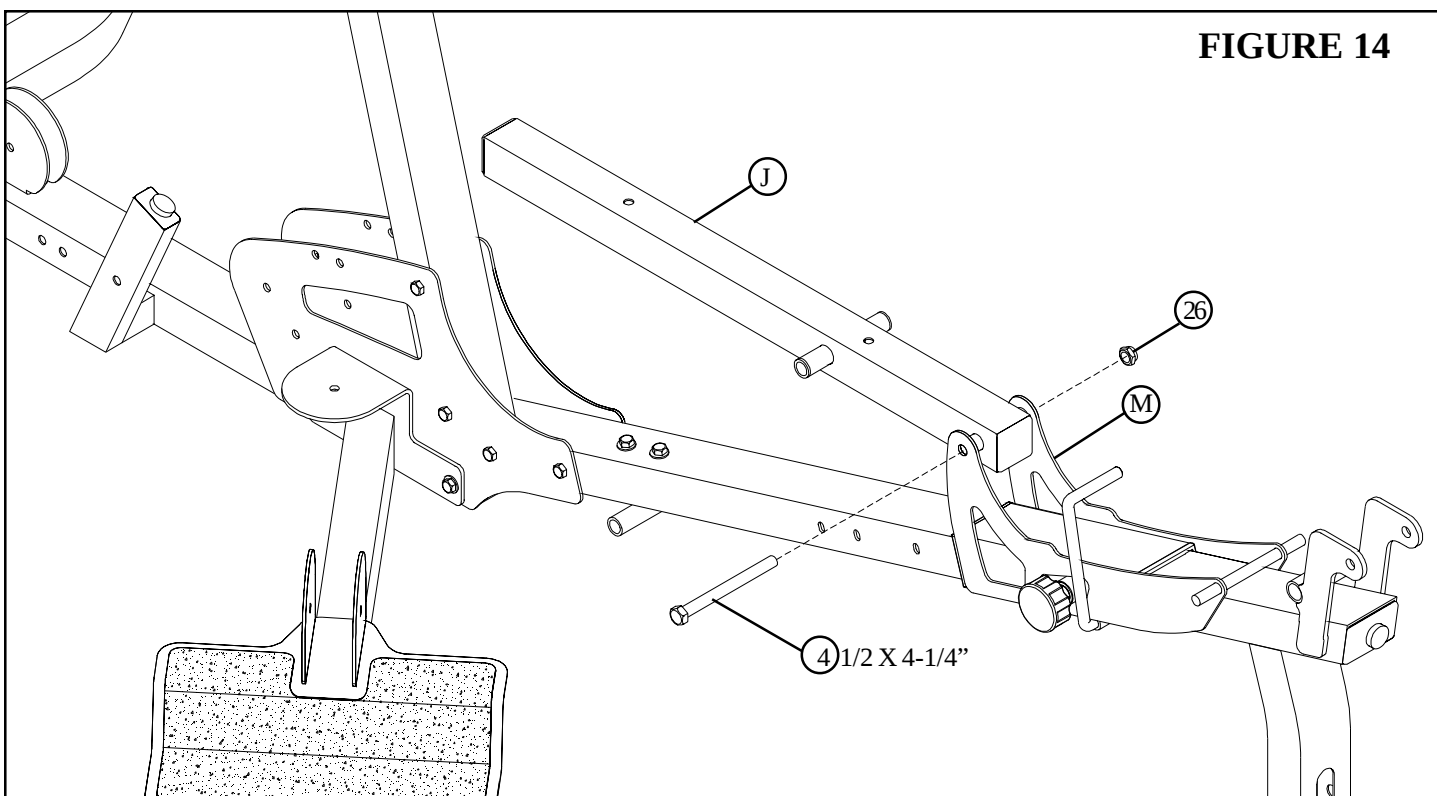

**FIGURE 13**
- **SECURELY** assemble the PIVOT ASSEMBLY (AG) to the SEAT FRAME (AF) using two 3/8 X 2-3/4" BOLTS (15), two 3/8" WASHERS (23) and two 3/8" LOCK NUTS (28) as shown in FIGURE 13.